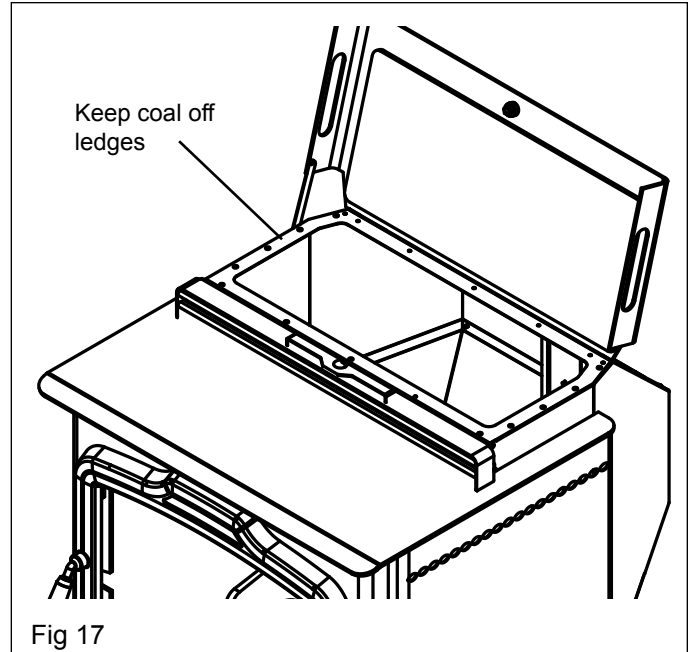

Fig 17
1. Fill the hopper with dry coal. **NOTE: Remove all coal from hopper ledge. (fig 17)**